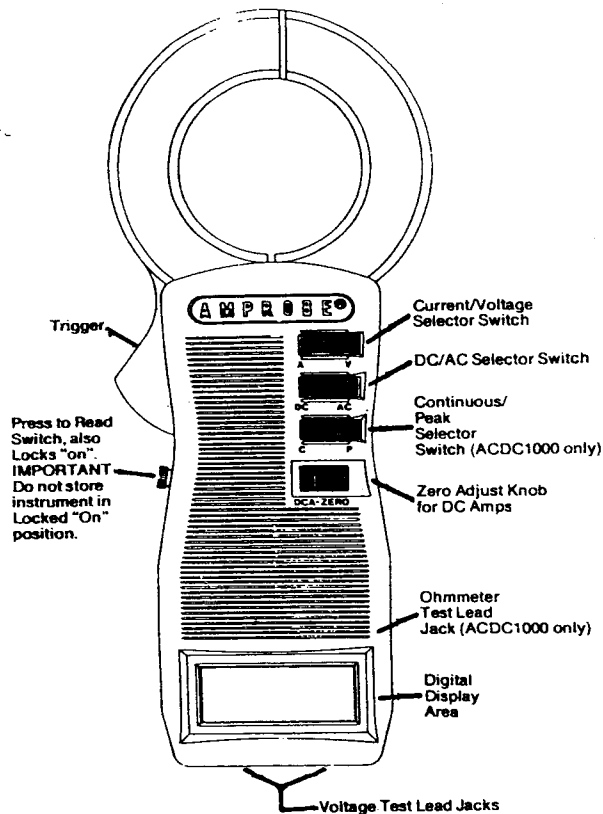

Figure 1
- 5) Insert insulated voltage test lead connectors into voltage receptacles in bottom of instrument. (See Fig. 1) Push in against receptacle spring and twist clock-wise to lock in place.
- 3) Plug ohmmeter lead into jack on the right side of the instrument. (See Fig 1)
To take a reading once the instrument has been connected as per the following instructions, push in on the Press-to-Read button. See Fig. 1.